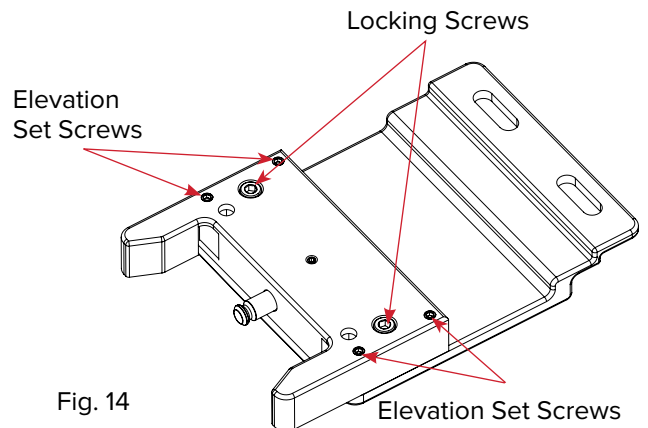

Fig. 14
- b. Adjust the height of the Latch Block using the (4) Elevation Set Screws (found on the Latch block) using a ⅛ in. Allen Wrench. (Fig. 14).
- d. Lock the Latch Block by tightening the (2) ¼-20 Locking Screws using ⅜ in. Allen wrench.